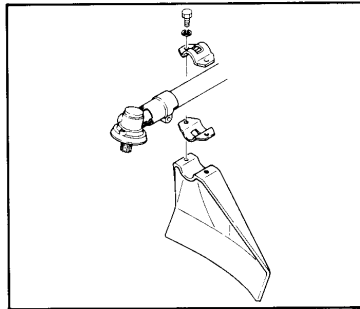

Fig. 4
4. Installation of safety guard (Fig. 4 & 5)
1. Secure the safety guard to the shaft as shown in Figure 4.